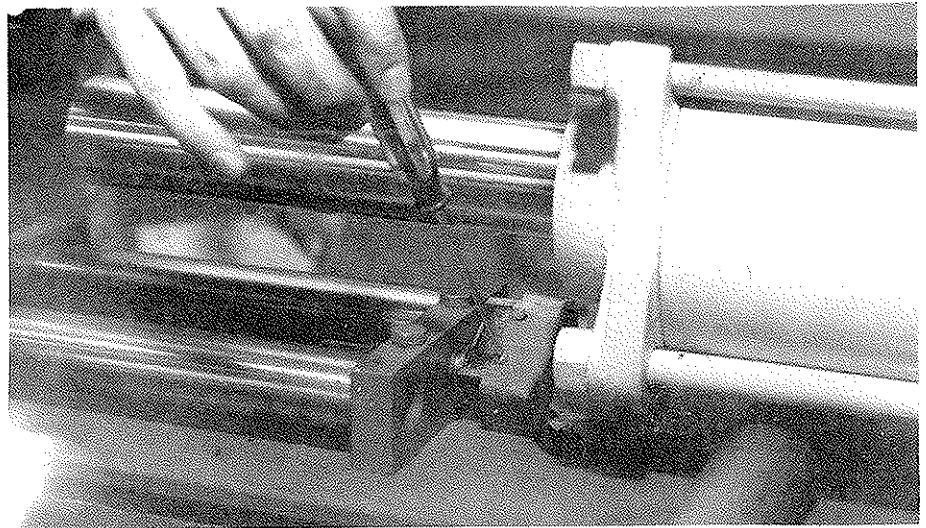

Figure 12
4. Remove the two bolts holding the "cover" over the micro switch. (Serial #1046 and above). (Figure 12) Then remove cover and also micro switch from bracket. NOTE: Wires do not have to be disconnected from switch. Just pull switch clear of bracket and allow it to hang free.